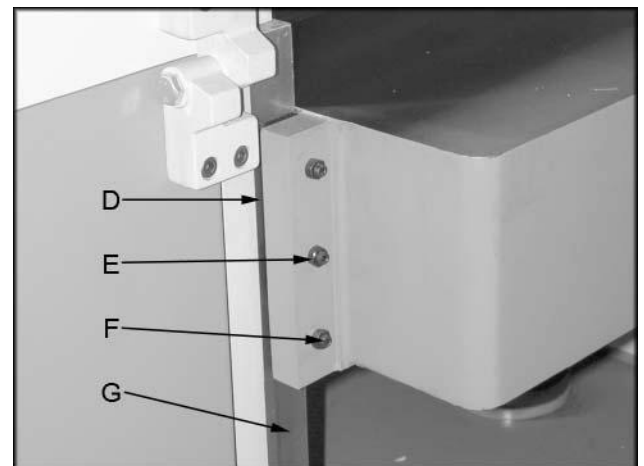

Figure 22
1. Adjust gibs (D, Fig 22) by loosening the hex nuts (E, Fig 22), and turning gib screws (F, Fig 22) so that the ways (G, Fig 22) are lightly contacted.